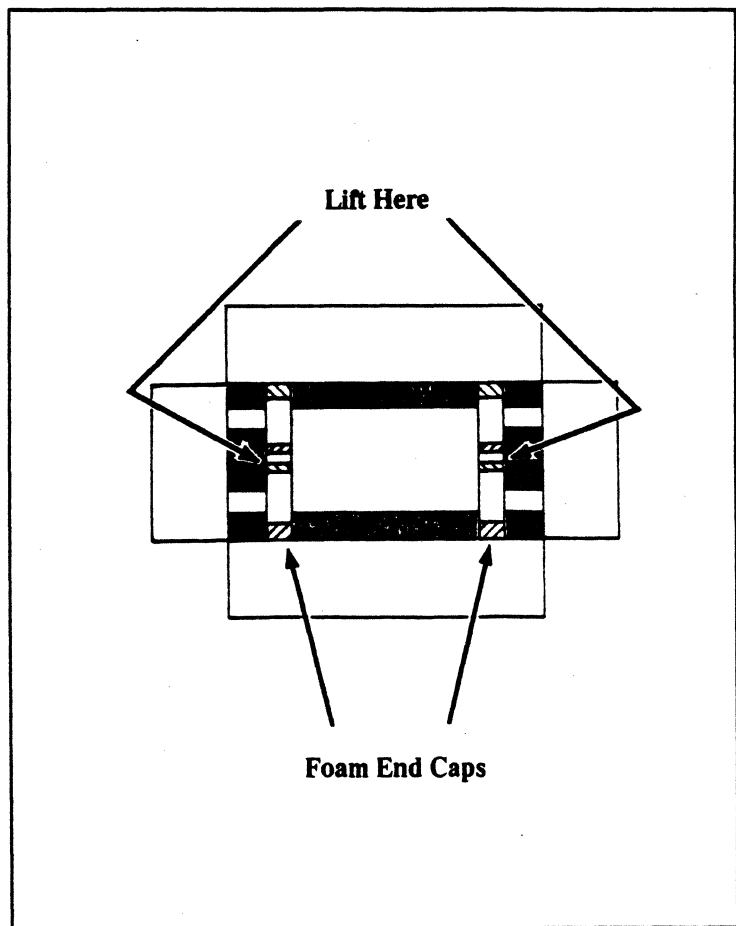

Figure 2
To remove the Mercury Disk Drive and options from the shipping carton see **Figures 2 through 2D** and follow these steps.
- (c) The foam padded box remaining in the shipping carton contains the disk drive. See **Figure 2**.